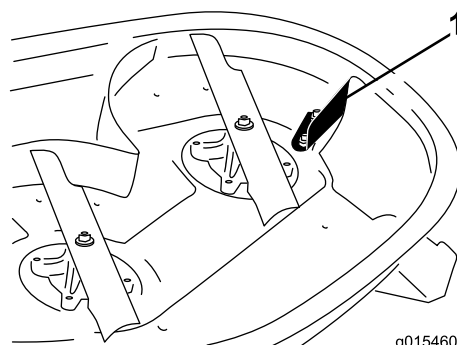

Figure 1
4. Some models have a cut-off baffle located near the discharge opening (Figure 1). Remove the baffle if it is present. Retain the parts for future use.